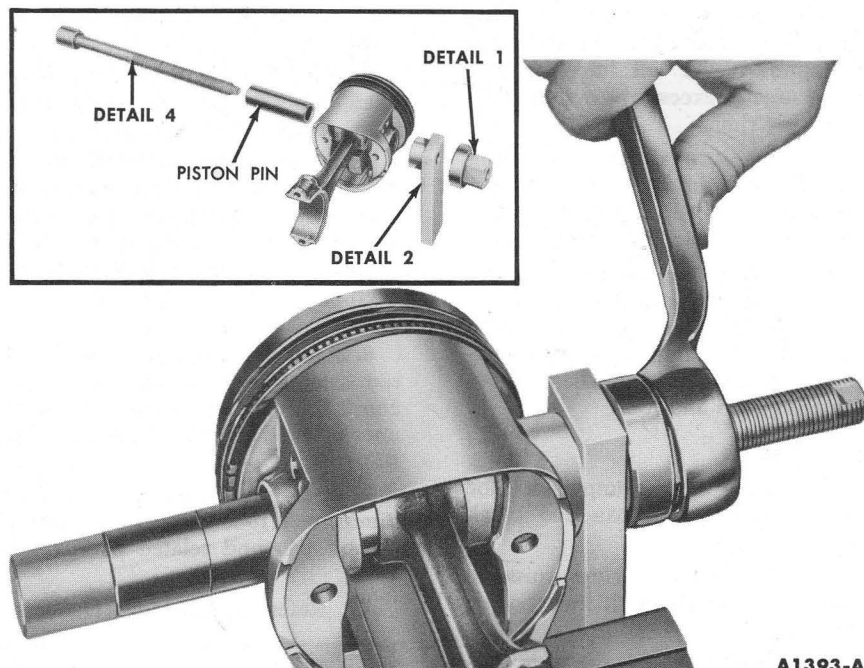

FIG. 65—Piston Pin Installation
2. Start the piston pin in the piston and connecting rod. Draw the piston pin through the piston and connecting rod until the end of the pin seats in Detail 2 (Fig. 65).